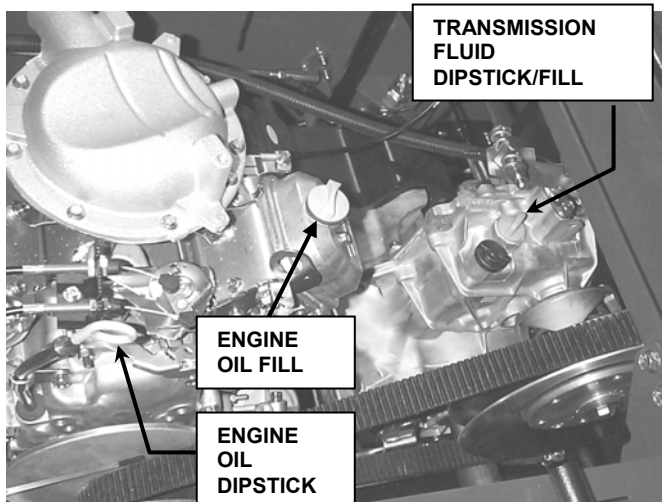

FIGURE 2.1
2.1.5. Check Engine oil and Transmission fluid. Raise empty cargo bed and carefully secure with prop rod. Add oil as needed to bring engine to FULL mark on dipstick. See Figure 2.1. Refer to Engine Owner's manual for engine oil specifications. Add fluid as needed to bring transmission to FULL mark on dipstick. See Figure 2.1. Use MOBILFLUID 424 or equivalent. IMPORTANT! Do Not overfill. Always fully thread dip stick when checking transmission fluid levels.